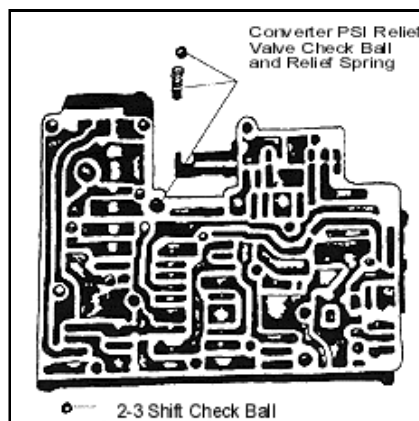
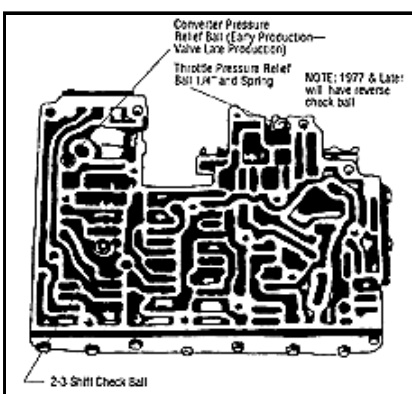

Figure 3
Figure 4
STEP 9 Reinstall check balls in upper valve body half as shown. (See **Figure 3** and **Figure 4**) (On 1967 and later the converter pressure relief spring is longer than the throttle pressure relief spring). Check balls will remain in stock location.